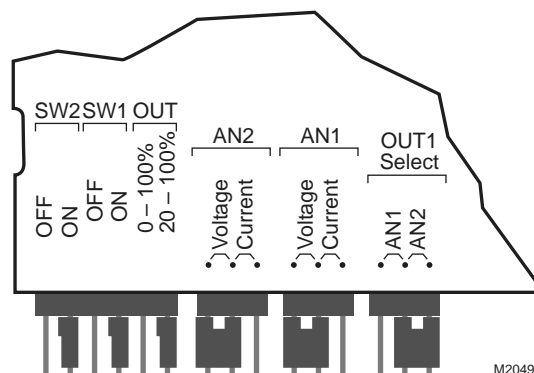

Fig. 8. C7232 default jumper settings for models with date code prior to 0309.
- On duct models with date code prior to 0309, remove the screw holding the board in place to view jumper settings on reverse. (See Fig. 8.)